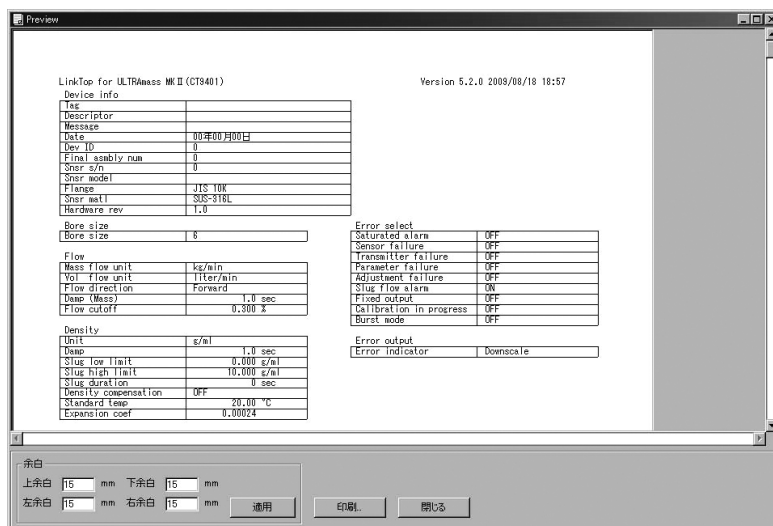

Fig.129
- ① Click on "File (F)" at the top-level menu of the screen, select "Print (P) Cntl+P" and click on again.
- ② On seeing a window like the one shown in Fig. 129, click on "OK" button.